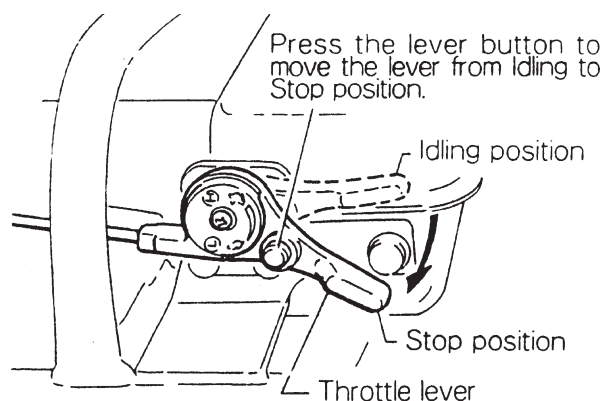

Figure 8. Stopping the Engine
1. Move throttle lever quickly from idle to STOP while pressing the throttle lever button. Run the engine for three minutes at idle speed to allow for proper cool down. Following the above procedures will prevent improper cylinder lubrication caused by a overheated engine. See Figure 8.